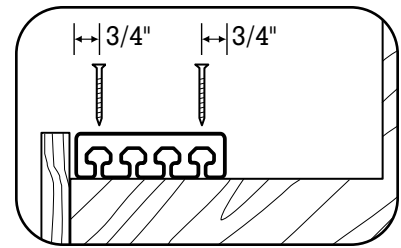

Fig. 24
- If using 2x6 Planks, use two 3" stainless steel or galvanized deck screws per joist, fasten the 2x6 Plank into place, placing the screws 3/4" from the outside of the plank (Fig. 24).